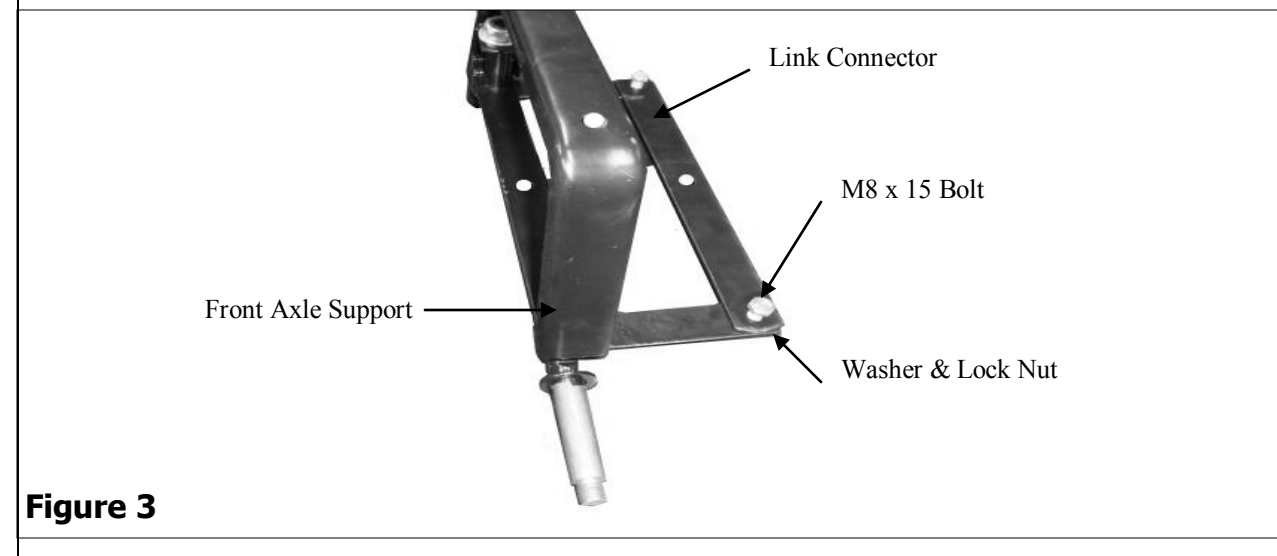

Figure 3
3. Attach the Steering Link Connector (Part 12) to the Front Axle Support (Part 9) by threading two M8 x 15 Bolts (Part 23) through the top of the Link Connector (Part 12) and into the Axle Support (Part 9). Secure at the bottom with Washer (Part 19) and the Lock Nut (Part 20). See Figure 3